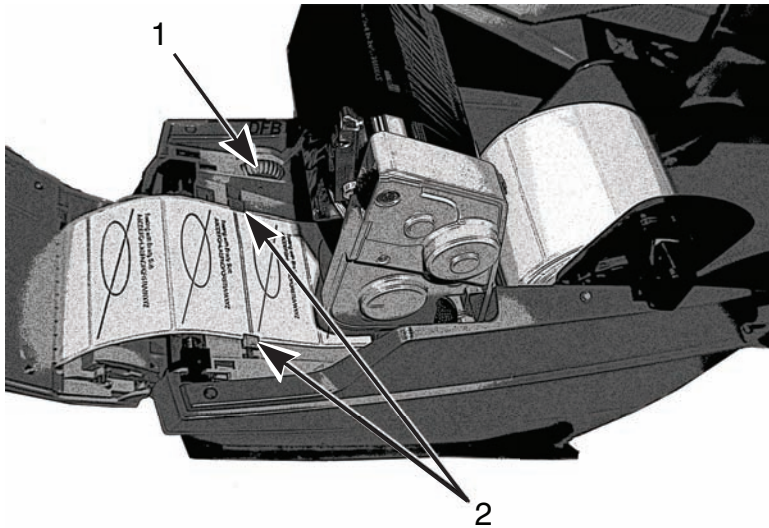

Figure 8, Alignment Guides
5. Thread the material under the ribbon carrier, under the guides **(Figure 8, 2)** and forward through the slot in the front cover.
6. Turn the green dial on the left **(Figure 8, 1)** to adjust the guides so they just snug up against the labels. Do not tighten the guides enough to crimp the labels.